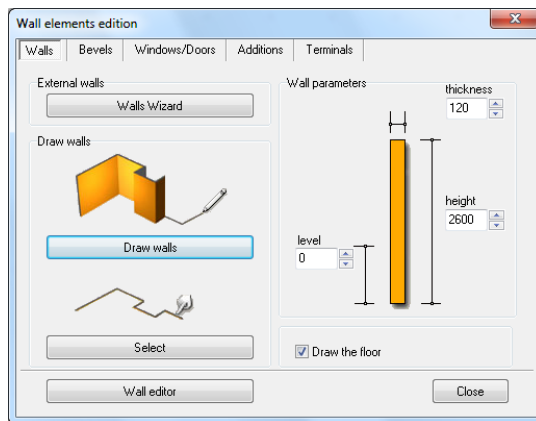

Fig. 66 – Wall Elements Edition dialog box
This icon opens a window presented below (Fig. 66).
- In the new window (Fig. 66) define the thickness and height of the walls and the level of the room;